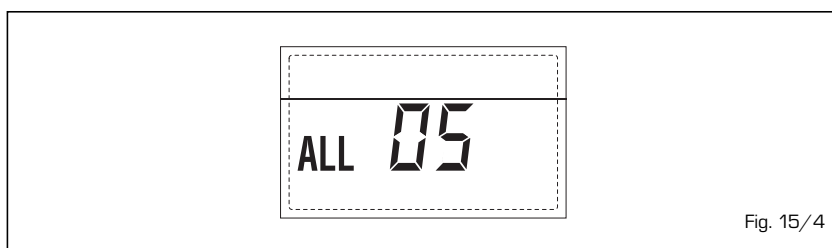

Fig. 15/4
- **BLOQUEO LLAMA "ALL 06" (fig. 15/5)**